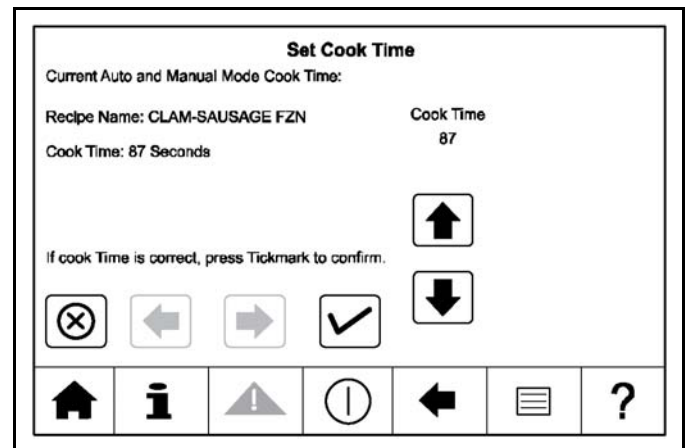

Figure-29
14. If the cook time is correct, press the Checkmark key  to confirm. See Figure-29.